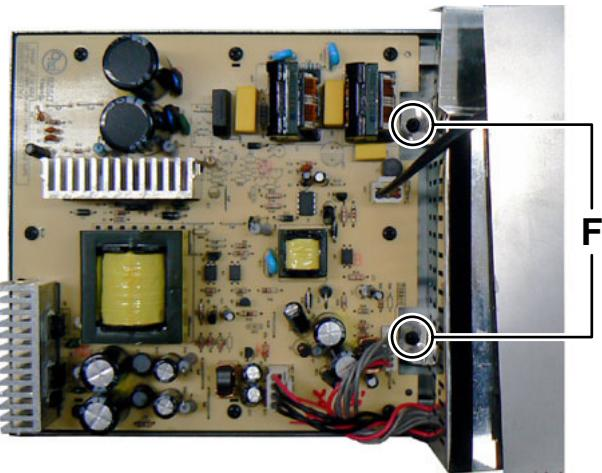

Fig.7
- (4) Lift up the cover; remove the two screws **F** attaching the Cover. (See Fig.7)